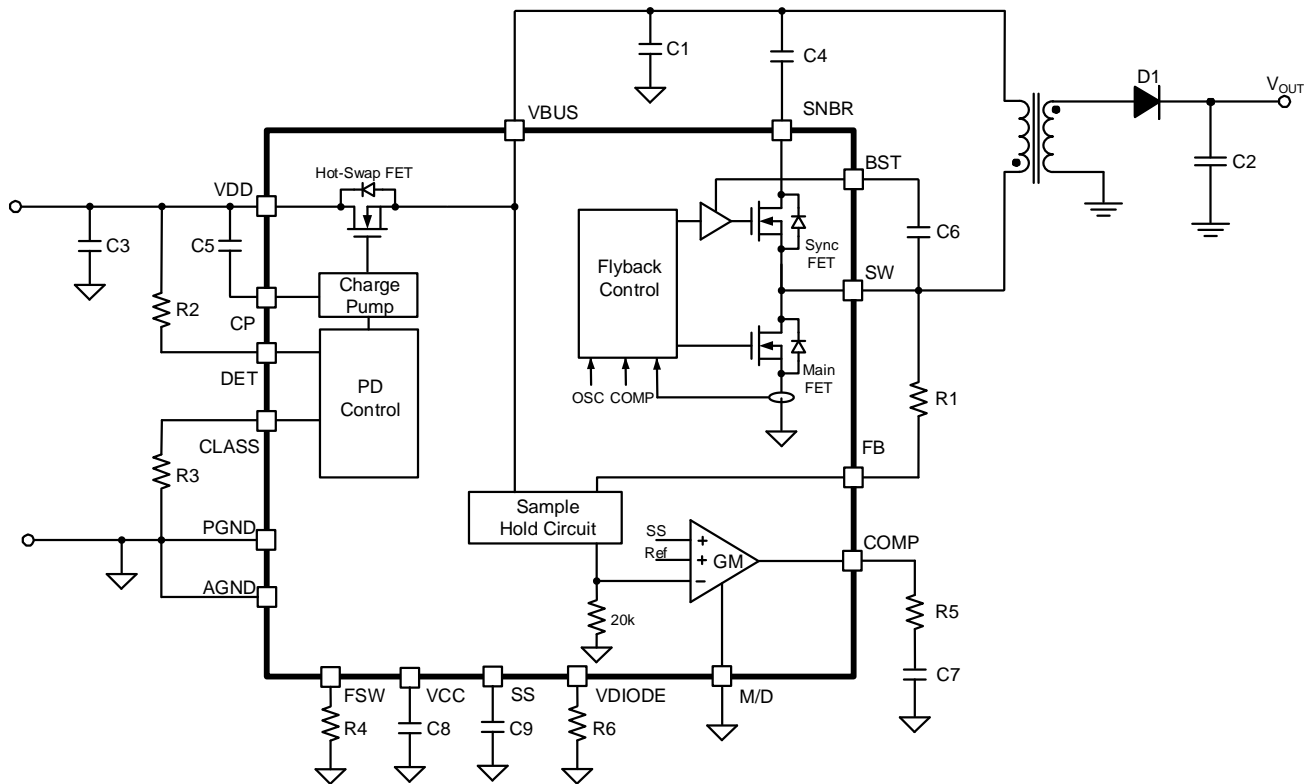

Figure 1: Functional Block Diagram
The MP8017 is an integrated, IEEE 802.3af-compliant, Power over Ethernet (PoE) powered device (PD) with a PD interface and flyback power converter. The power converter can be set to active-clamp primary-side regulation (PSR) flyback mode and active-clamp secondary-side regulation (SSR) flyback mode. It is targeted for small-sized, 13W, isolated PoE applications. The PD can also respond to IEEE802.3at power-sourcing equipment (PSE) at a class 4 level. Figure 1 on page 17 shows the internal block diagram.